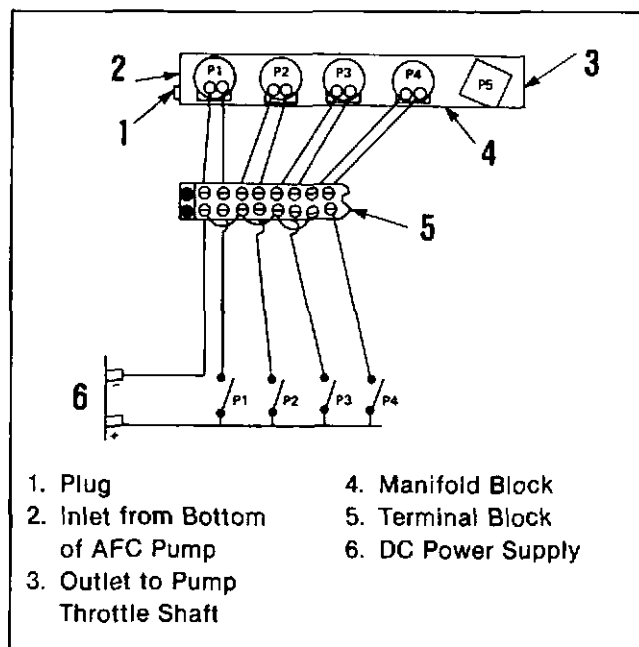

Fig. 10-70, (F5405). Wiring diagram for multiple unit throttle control.
5. The wiring diagram for the control is shown in Fig. 10-70.